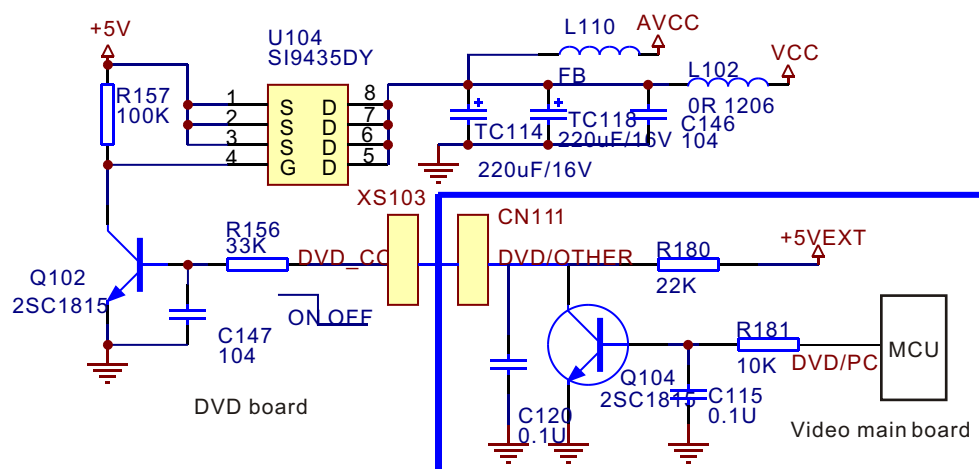

Figure 3.2.13.1 DVD power control circuit
1. DVD power control circuit is shown in the figure 3.2.13.1: